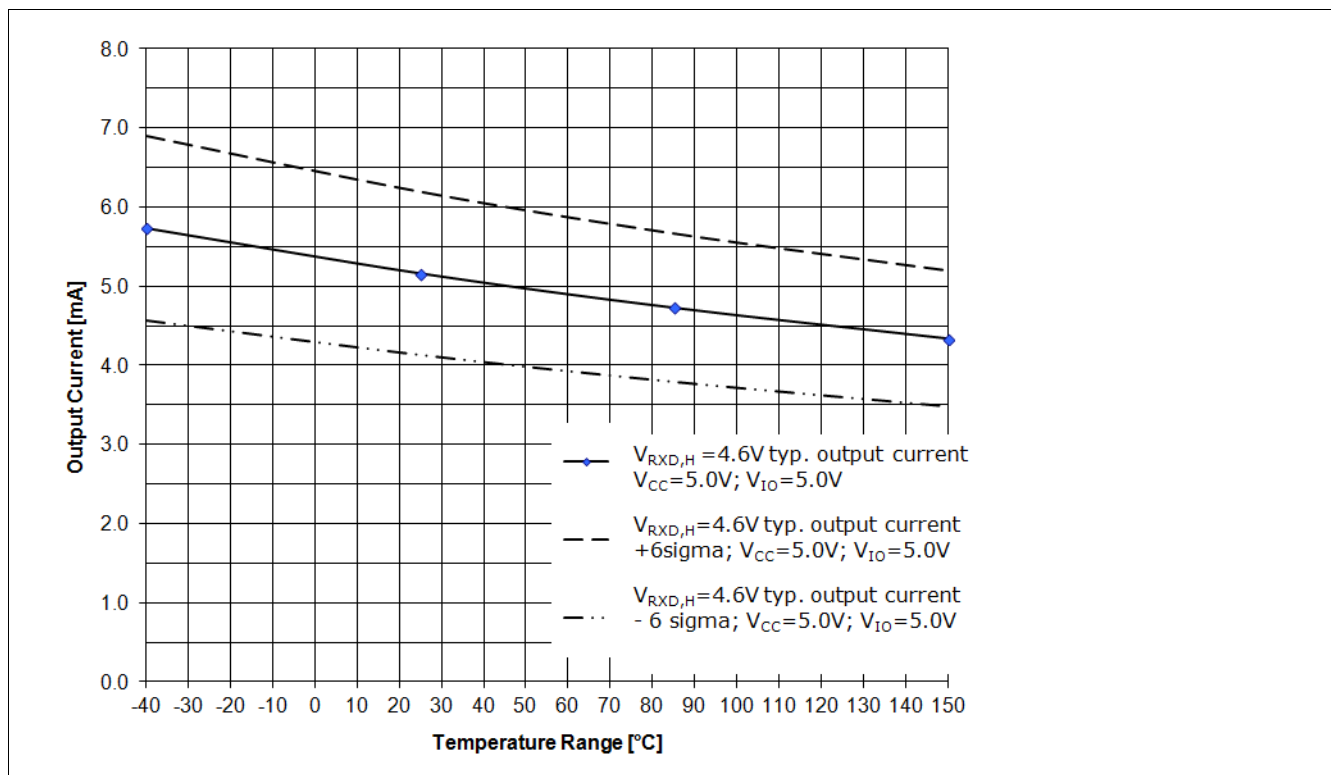
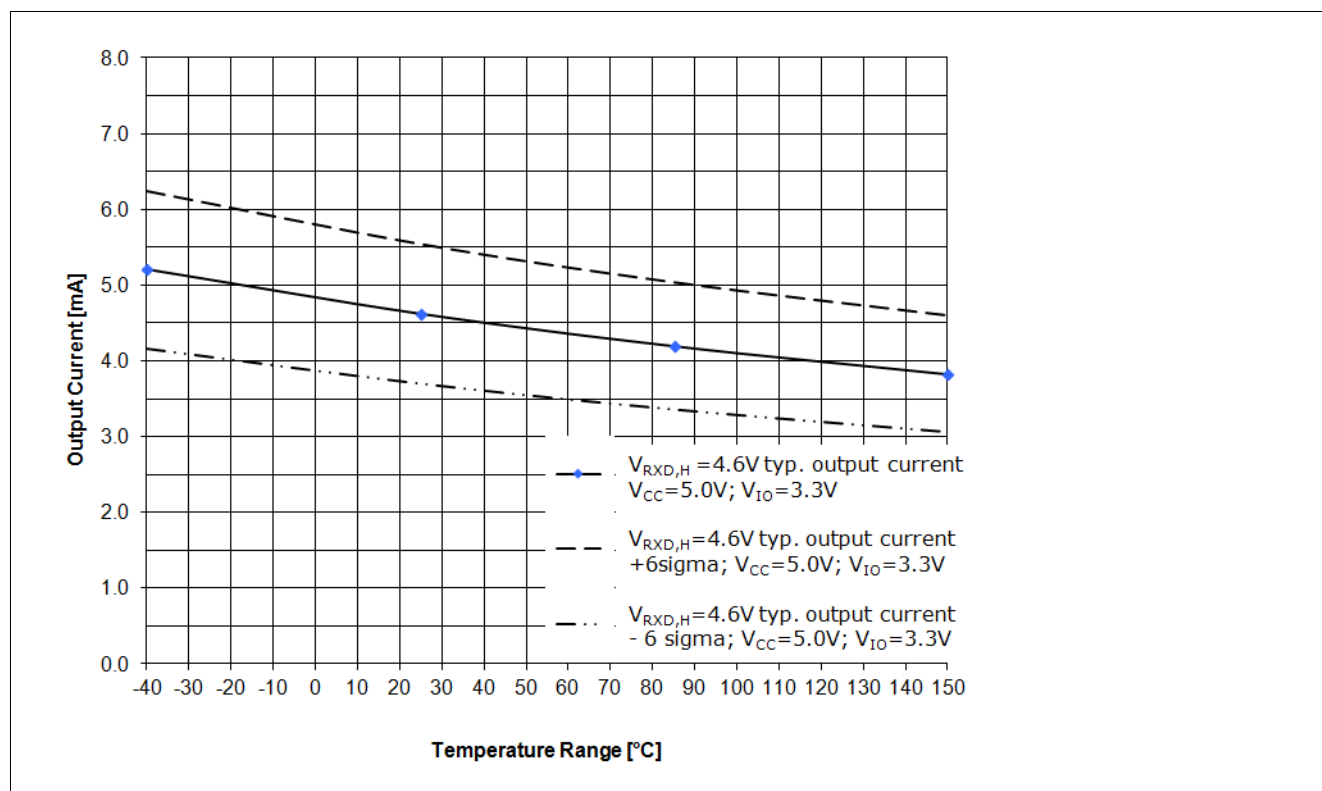

Figure 11 RxD Output driver capability for a logical “High” signal $V_{RxD,H}=4.6\text{ V}$, $V_{CC}=5.0\text{ V}$, $V_{IO}=5.0\text{ V}$ ¹⁾
Figure 12 RxD Output driver capability for a logical "High" signal $V_{RxD,H} = 4.6V$, $V_{CC} = 5.0V$, $V_{IO} = 3.3V$ ¹⁾
The diagram in Figure 11 shows the output current capability of the RxD output pin depended on the chip temperature T_J at a V_{IO} power supply of 5.0 V. Figure 12 shows the output current capability of the RxD output pin at a V_{IO} power supply of 3.3 V.
- The curve “VRxD,H = 4.6 V; typ. output current; VCC = 5.0 V; VIO = 5.0 V;” displays the typical output current at the RxD output pin of the TLE8250GVIO (see Figure 11).
- The curve “VRxD,H = 4.6 V; typ. output current + 6 sigma; VCC = 5.0 V; VIO = 5.0 V;” displays the expected maximum value of the output current at the RxD output pin (see Figure 11).
- The curve “VRxD,H = 4.6 V; typ. output current - 6 sigma; VCC = 5.0 V; VIO = 5.0 V;” displays the expected minimum value of the output current at the RxD output pin (see Figure 11).
- The curve “VRxD,H = 4.6 V; typ. output current; VCC = 5.0 V; VIO = 3.3 V;” displays the typical output current at the RxD output pin of the TLE8250GVIO (see Figure 12).
- The curve “VRxD,H = 4.6 V; typ. output current + 6 sigma; VCC = 5.0 V; VIO = 3.3 V;” displays the expected maximum value of the output current at the RxD output pin (see Figure 12).
- The curve “VRxD,H = 4.6 V; typ. output current - 6 sigma; VCC = 5.0 V; VIO = 3.3 V;” displays the expected minimum value of the output current at the RxD output pin (see Figure 12).